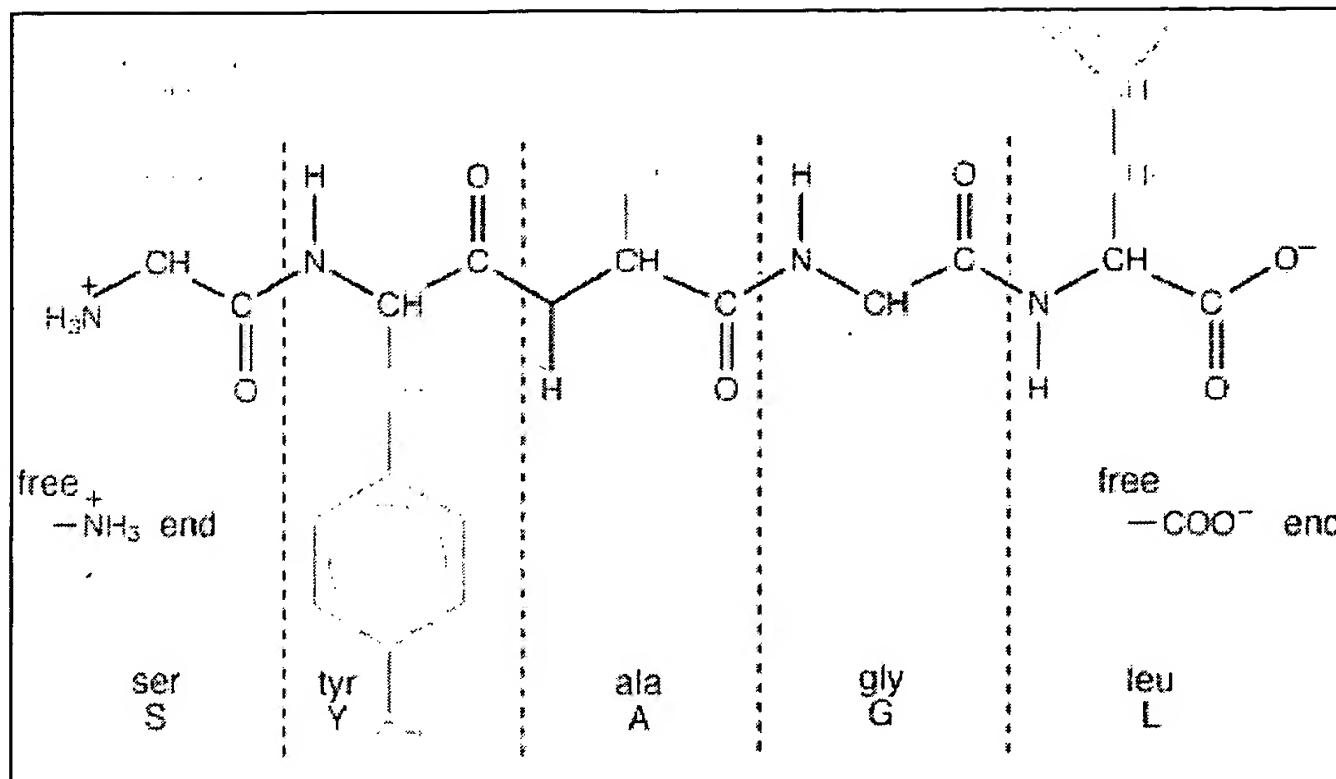

Figure 3
In addition there are **side chain groups (residues)** that belong to each α -amino acid unit (Figures 2, 3 on this page, and Figure 3 Chapter 2). The number of each type of residue and their order along the backbone give each polypeptide its unique properties.
1. Refer to Figure 3 on page 4 and describe the sequence of the following section of a primary structure of a peptide using: